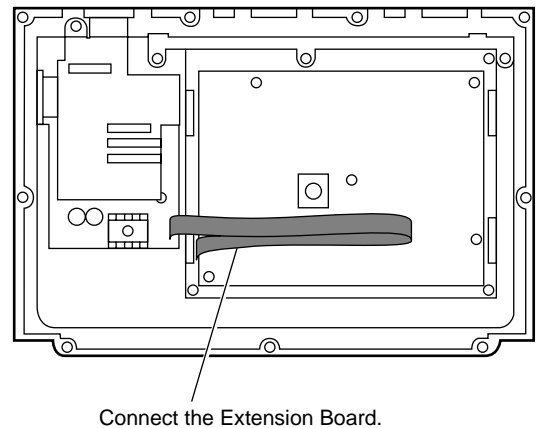

Fig. 2-3
• Referring to Fig. 2-3, connect the Extension Board between CN3 on the Power Board and CN3 on the Main Board.